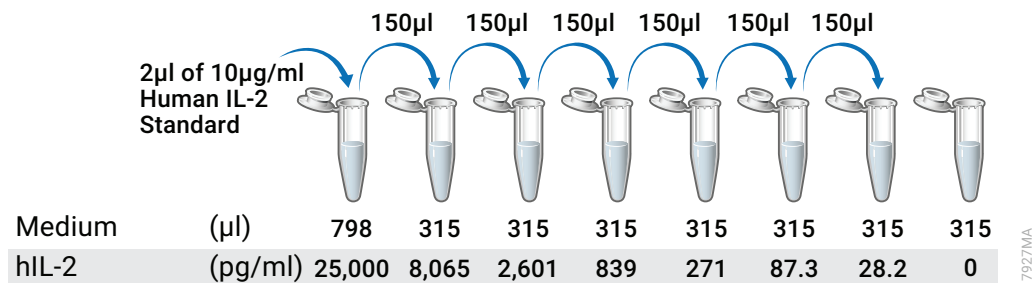

Figure 3. Human IL-2 dilution series.
3. Prepare an initial concentration of 25,000pg/ml human IL-2 by diluting Human IL-2 Standard (10µg/ml) 1:400 in prewarmed cell culture medium. For example, prepare 800µl of 25,000pg/ml human IL-2 by adding 2µl of the Human IL-2 Standard stock to 798µl of culture medium (see Figure 3).
3. Prepare an initial concentration of 25,000pg/ml human IL-2 by diluting Human IL-2 Standard (10µg/ml) 1:400 in prewarmed cell culture medium. For example, prepare 800µl of 25,000pg/ml human IL-2 by adding 2µl of the Human IL-2 Standard stock to 798µl of culture medium (Figure 3).